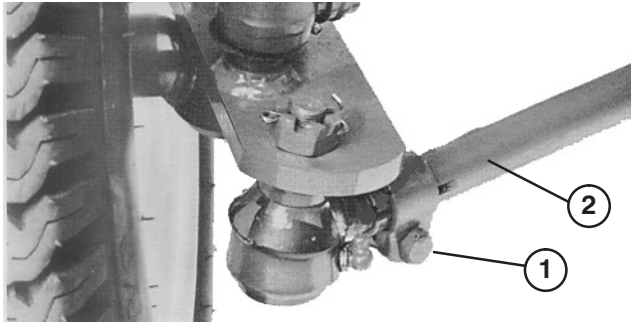

Figure 46
2. Loosen clamps at both ends of tie rods (Fig. 46).